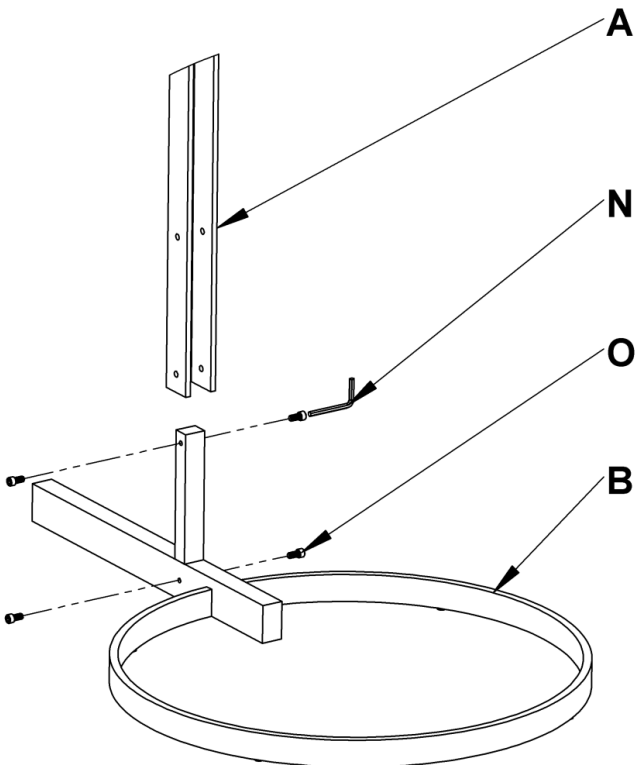
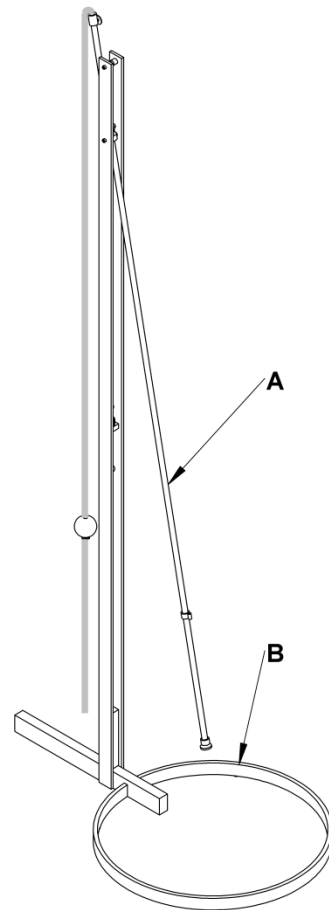

Figure 1
Figure 2
To Assemble base to upright (Figure 1 & 2)
- C Shade/Diffuser Assembly (not shown in Figure 1)
- O Socket Head Cap Screws (4)
1. Carefully unpack the lamp from the boxes. Do NOT remove plastic wrap from Shade/Diffuser Assembly (C) at this time.
2. Locate the upright assembly (A) and the base assembly (B). Place the base assembly (B) on the floor. Remove socket head cap screws (O)
3. Orient upright assembly (A) to base assembly (B) as shown in figure 2.
4. Slide the upright assembly (A) over the vertical bar on the base assembly (B) until the holes in the upright assembly (A) align with the tapped holes in the base assembly (B). Install 4 socket head cap screws (O) using hex wrench (N).